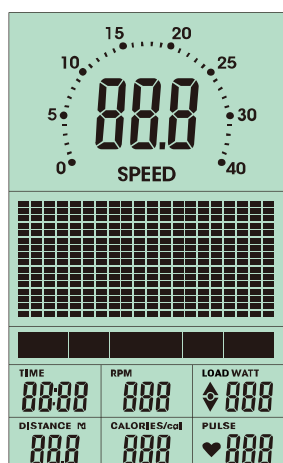

FIGURE 1
1. Connect power supply to the monitor or press the RESET button for 2 seconds, the LCD will display all segment with a long- beep sound for 2 seconds and display 78.0 in below (FIGURE 1 & 2).